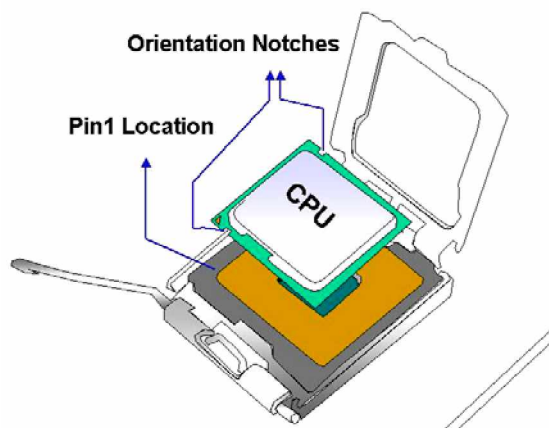

**Figure 4-3: Open the CPU Socket Load Plate**
**Step 2: Open the socket.** To open the socket, disengage the load lever by pressing the lever down and slightly outward to clear the retention tab. Rotate the load lever to a fully open position. Then rotate the load plate towards the opposite direction. (See **Figure 4-3**)